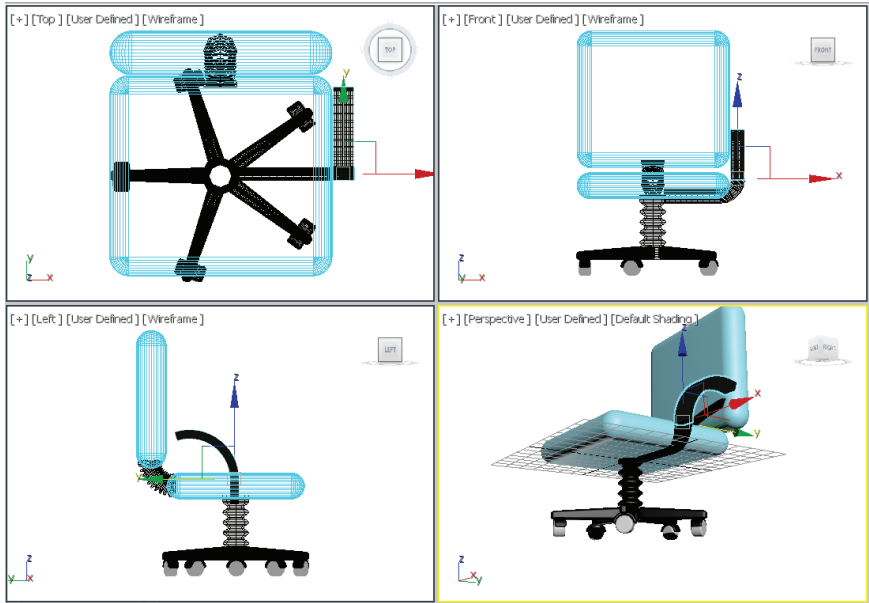

Figure 3-51 Alignment of right hand support002 in viewports
12. Align *right hand support002* in viewports using the **Select and Move** and **Select and Rotate** tools, as shown in Figure 3-51.